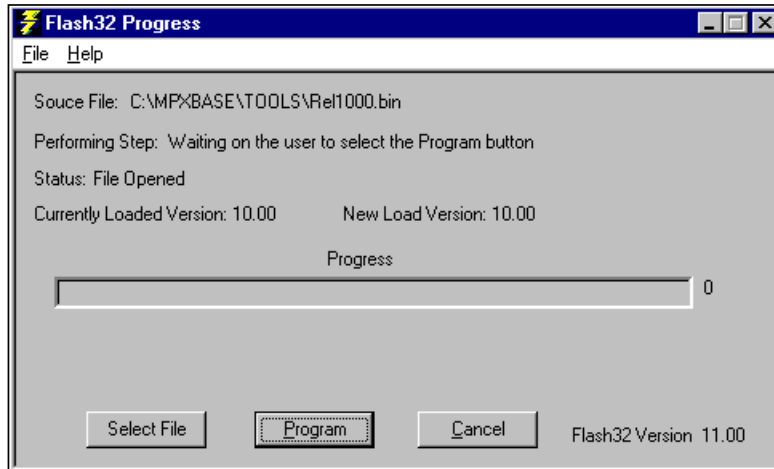

Figure 277. Flash32 Progress dialog box (Program)
4. Tab to the list of files and directories, use the arrow keys to select the desired file version, and press **Enter** to return to the Flash32 Progress window, shown in Figure 277.